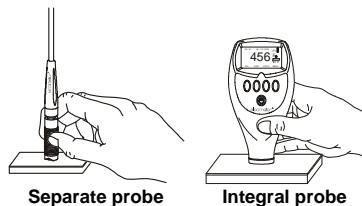

Figure 8. Taking a reading
2. Place probe on surface to be measured. **The reading may be inaccurate if the probe is not held as shown in Figure 8.**